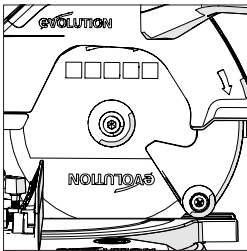

Fig. 5
**⚠ WARNING:** To reduce the risk of injury, always remove the battery from the machine before carrying out any adjustment, servicing or maintenance. Compare the direction of the rotation arrow on the guard to the direction arrow on the blade. The blade teeth should always point downward at the front of the saw (Fig.5). Check the tightness of the arbor screw.